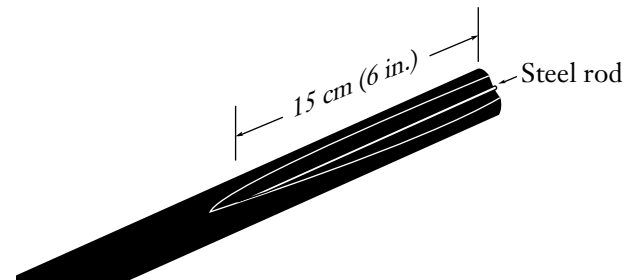

Figure 4
4.3 Starting at the end of the cable, use the cable sheath knife to shave off 15 cm (6 in.) of the outer sheath directly over the steel rods. Shave the sheath until both of the steel rods are visible (Figure 4).